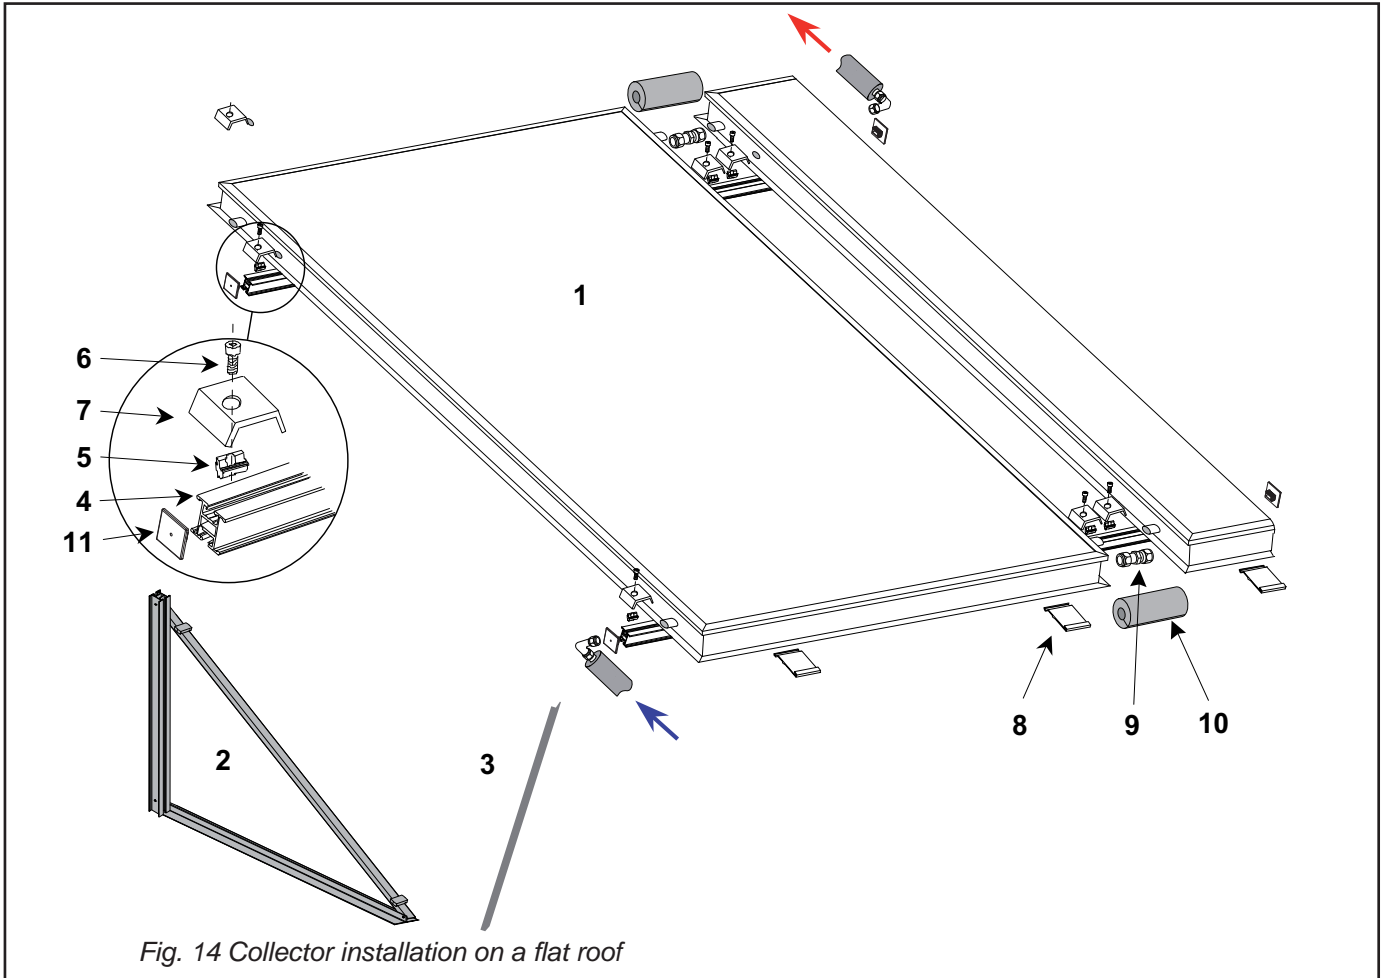

Fig. 14 Collector installation on a flat roof
- Lay the following collector next to the first one, maintaining a sufficient gap. Then put on the threaded fittings (Fig. 14, pos. 9) and push the collector to the already mounted one until stop. Hold the fitting with a spanner to prevent turning and tighten the nuts. More on this in chapter 5 **Hydraulic Connection**.